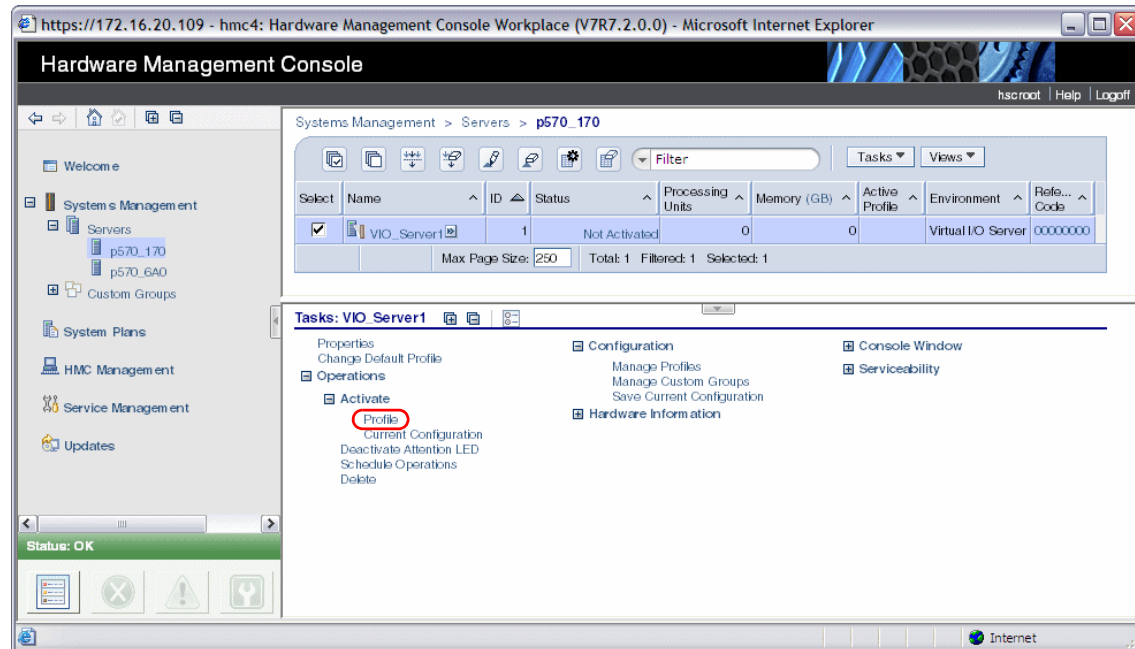

Figure 12-20 HMC Activating a partition
2. Activate the VIO_Server1 partition by selecting the partition and clicking **Operations** → **Activate** → **Profile**, as shown in Figure 12-20.